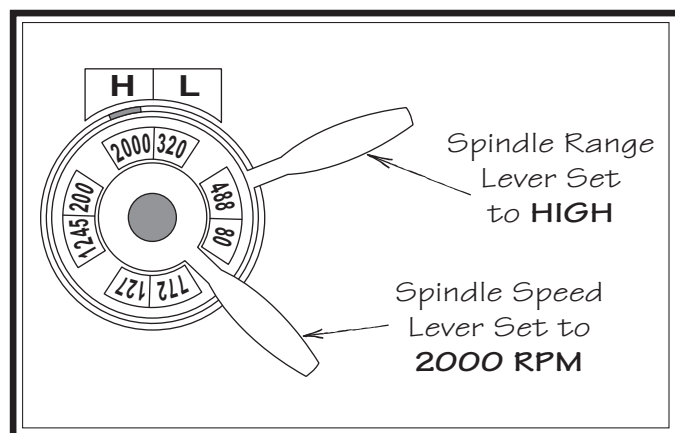

Figure 68. Setting the spindle speed to 2000 RPM.
2. Move the spindle range lever to the right so that the arrow on top of its hub points toward the **H** (high) label (see the illustrated in **Figure 68**).